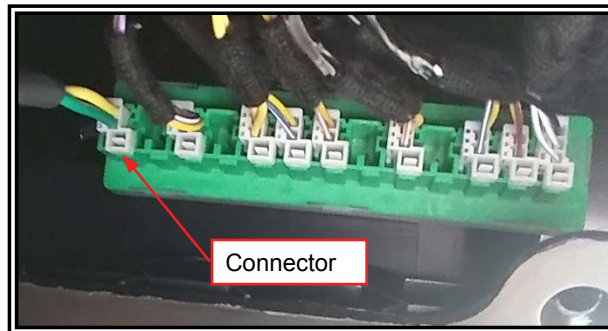

Figure 2
Step 2. Connect the 2-pin connector from the OBDII Harness to the CAN-C port found in Step 1, as seen in FIGURE 2.